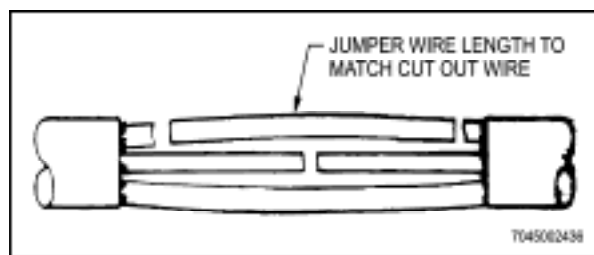

Figure 5-22 Jumper Wire Cut to Match Removed Segment
- n. Cut replacement wire appropriate length to match removed segment (Figure 5-22).